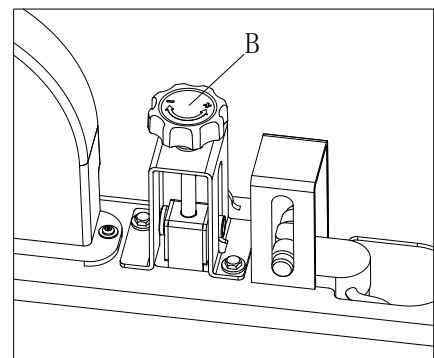

Figure 21
5. Turn the main broom adjuster (B, Figure 21) on the right side of the machine as shown below: